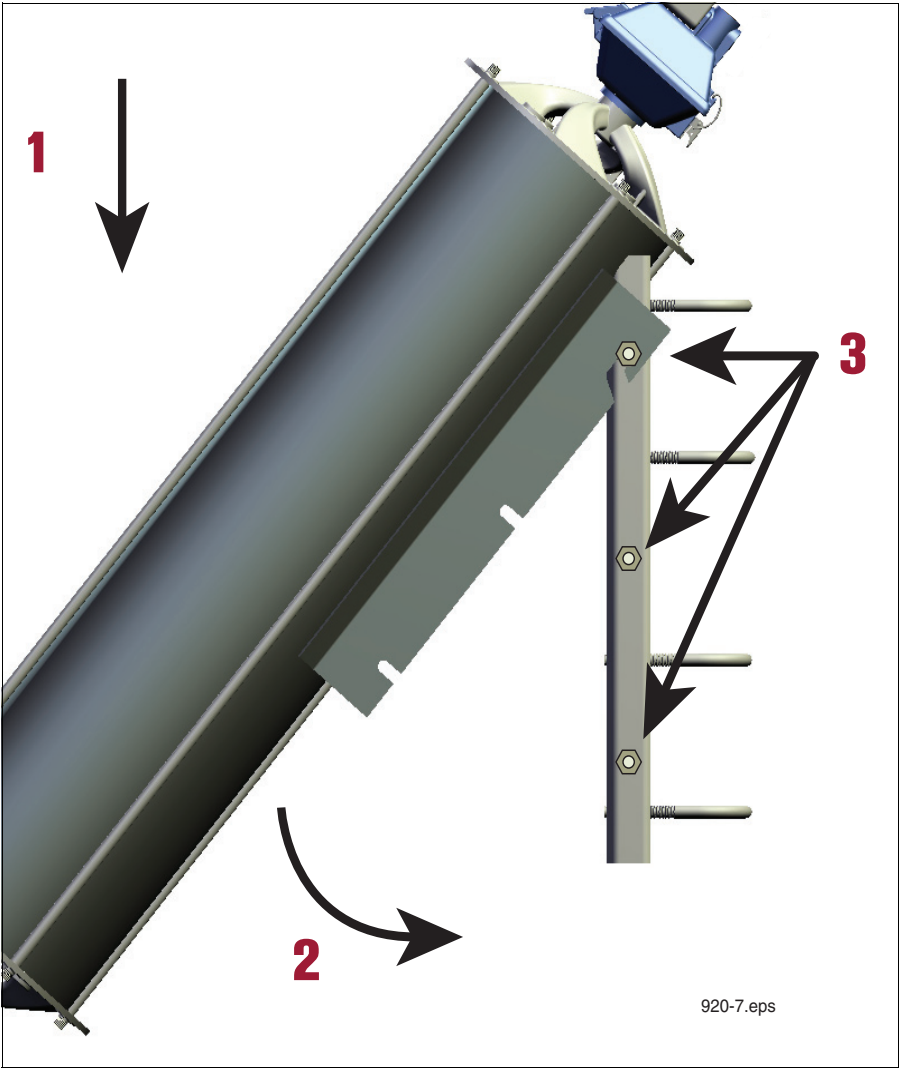

Figure 2. Installing CCVP onto bracket
6. Following all required national, state, local and site safety precautions, carefully hang the CCVP's notched support tabs onto the top two side studs of its mounting bracket (Step 1 in Figure 2), swing the canister down until all of the slots in the canister's side mounting tabs seat against the studs in the bracket (Step 2 in Figure 2), then tighten the six side nuts to secure the canister onto its bracket (Step 3 in Figure 2).